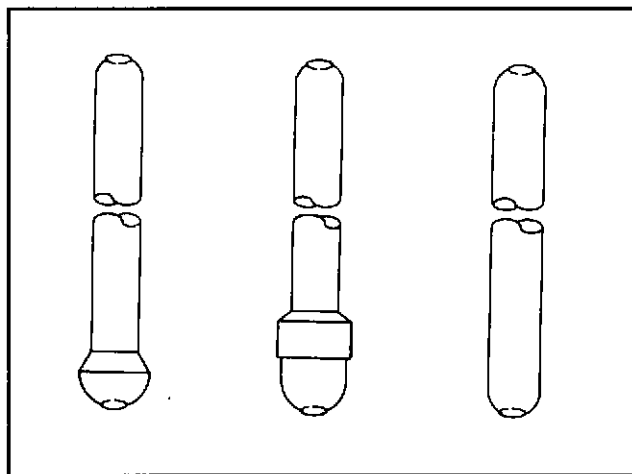

Fig. 2-33, (F60188). Plunger links with excessive wear.
1. Replace the plunger link if worn excessively. See Fig. 2-33.